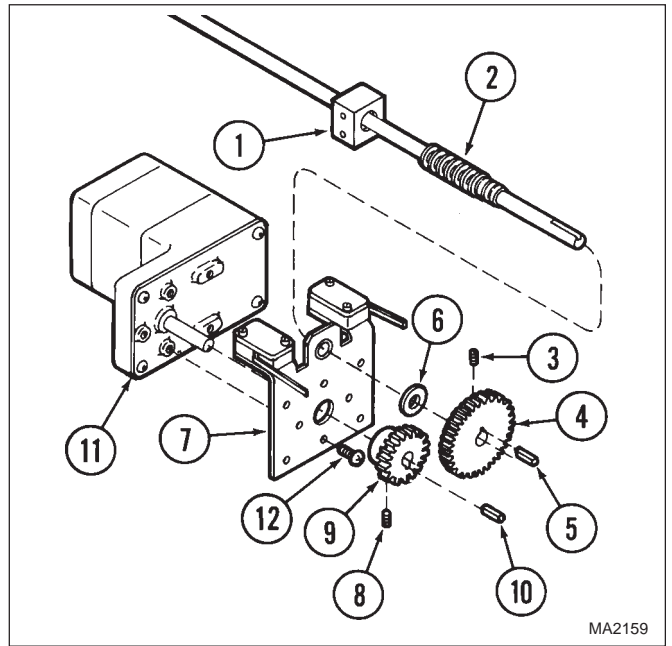

Figure 4-33. Lateral Tilt Drive Assembly Disassembly
- (38) Partially separate the lateral tilt drive assembly (3) from trendelenburg plate (4) and then tag and disconnect lateral tilt wire harness (2) from wire harness (5). Remove lateral tilt drive assembly (3) from surgery table.
- (39) Unscrew lead nut (1, Figure 4-33) from drive shaft (2).
- (40) Loosen setscrew (3) and remove bull gear (4), key (5), and fiber washer (6) from drive shaft (2).
- (41) Remove drive shaft (2) from bull gear bracket (7).